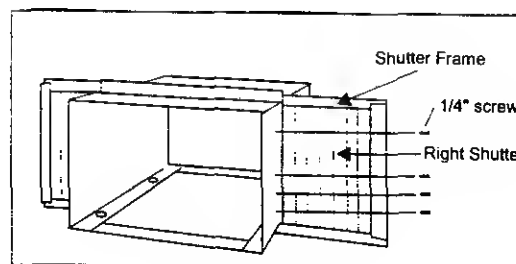

Fig 8
Slide the shutters into the top and bottom channels as shown in (Fig 8). The shutters are identified (on each frame) as "left" & "right". Attach the shutters to the cabinet using (2) 1/4" screws on each side.